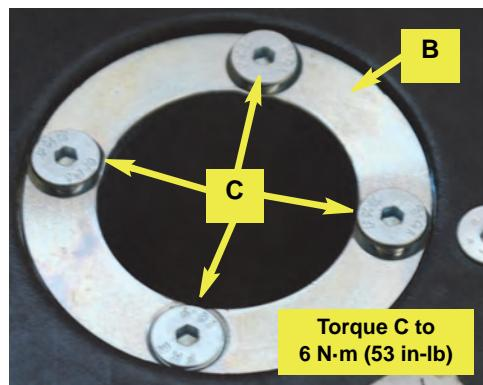

Figure 1b: Securing the shaft adapter
- Using the four countersunk screws **C**, secure the shaft adapter **B** in steering wheel **A**. Torque the screws to **6 N·m (53 in-lb)** (Figure 1b).